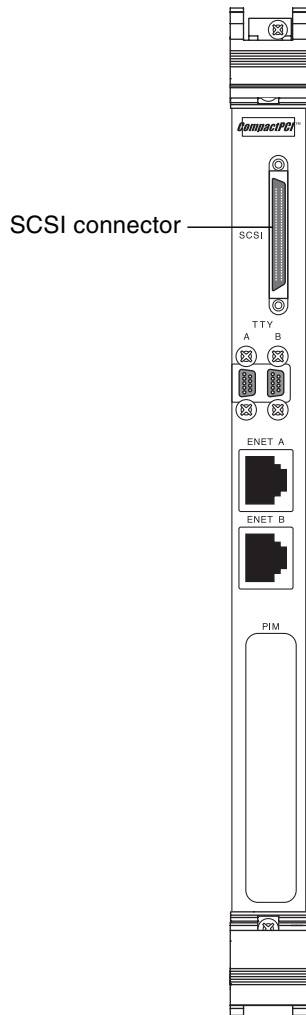

FIGURE A-1 SCSI Connector on the Netra CP2140 Host RTM
FIGURE A-1 shows the locations of the connectors on the host RTM. The host RTM is the same for both the Netra CT 810 server and the Netra CT 410 server; only the location in the rear board cage differs.
- If you are connecting an external SCSI device to the host RTM, connect the VHDC side of the VHDC-to-SCSI 3 adapter cable to the SCSI port on the RTM (see FIGURE A-1).